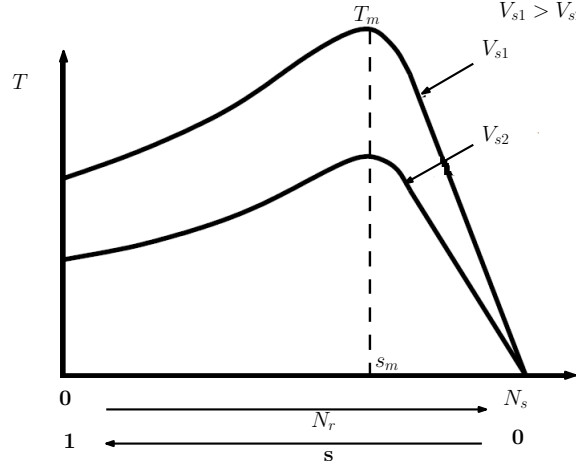

Figure 2: T- $N_r$  characteristics of a three phase induction motor with variable voltage control
If voltage applied to the stator of the induction motor is varied, developed torque will vary with a relation  $T \propto V_s^2$ . The maximum torque developed,  $T_m$  is also proportional to square of the applied voltage as in (4), but  $s_m$  is independent of applied voltage. So, if the  $T-N_r$  characteristics is plotted for different voltages, we get the characteristics as shown in Fig. 2.